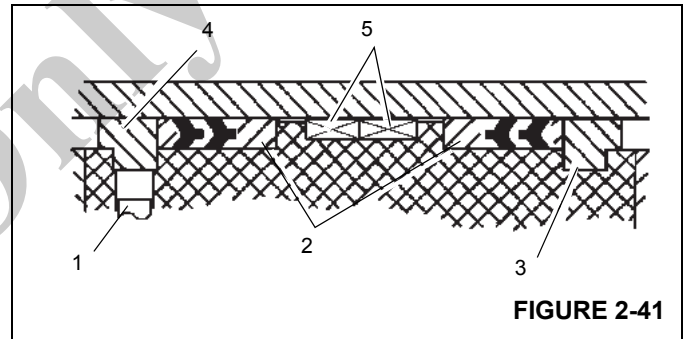

FIGURE 2-41
9. Install the guide lock rings, hydrolock seal assemblies Figure 2-41 and wear rings on the outside of the piston.